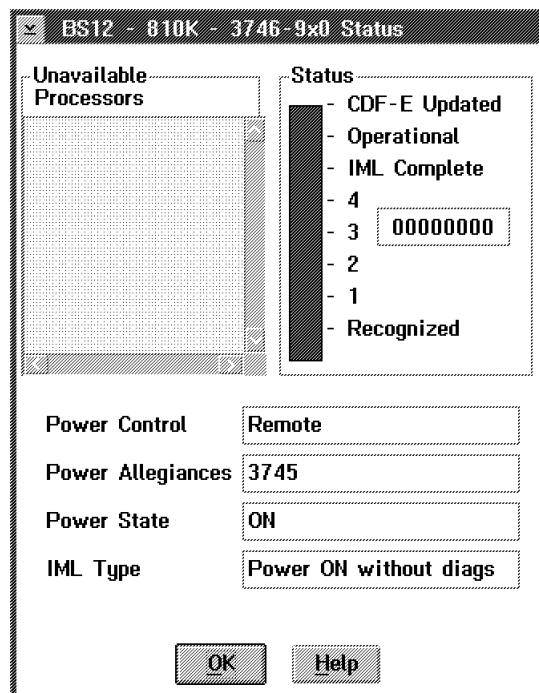
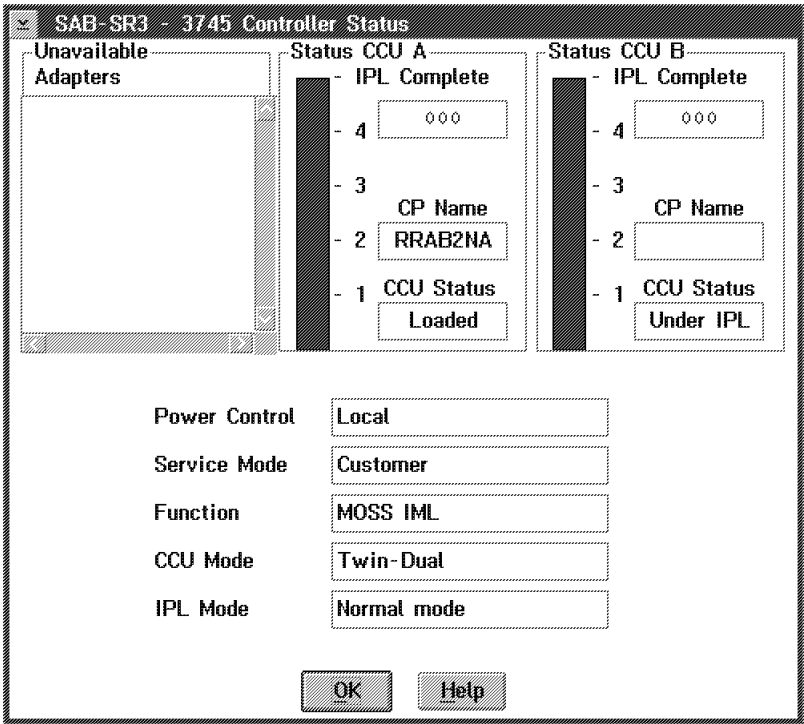
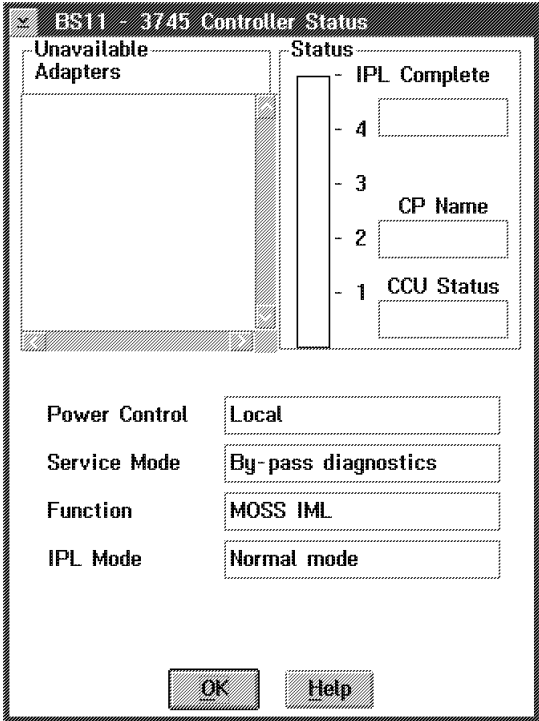

Figure 1-8. 3746-9x0 Status Display
Figure 1-9. 3745 Model X1A Status Display
Figure 1-10. 3745 Model 17A Status Display
2. Click **Status**. The following panels are displayed (see Figure 1-8 for the 3746-9x0 and Figure 1-9 on page 1-5 or Figure 1-10 on page 1-5 for the 3745 X1A or 17A).